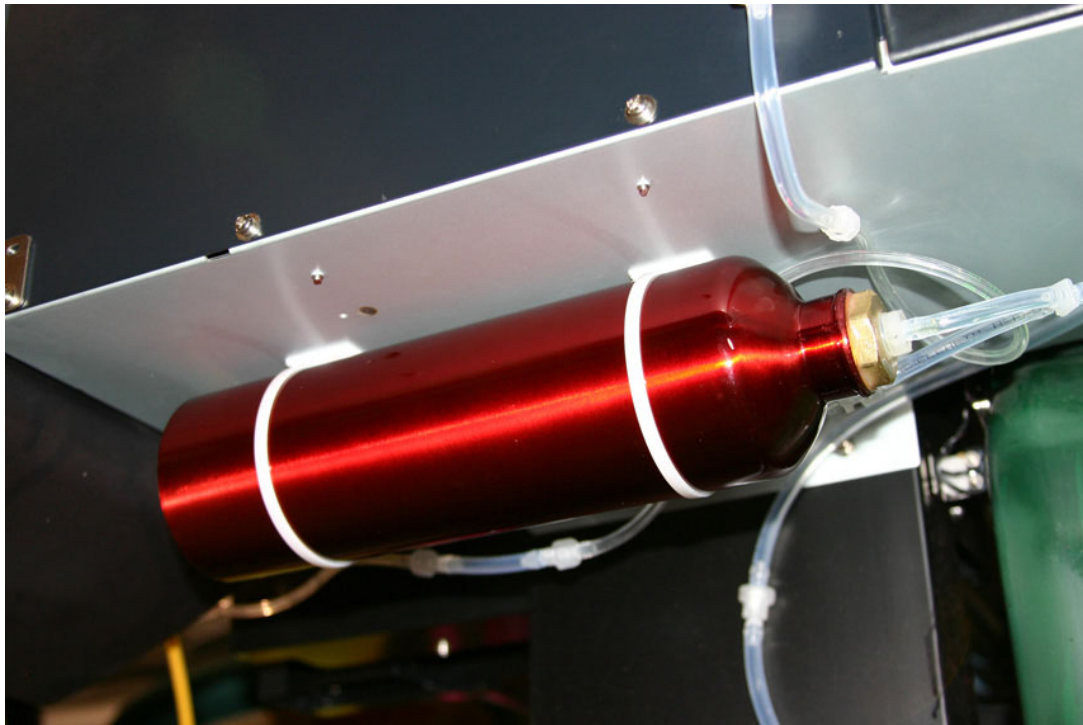

Figure 2. Air tank mounting.
2. Using the sticky pads and nylon ties, mount the air tank to the bottom plate on your printer as shown on Fig.2.